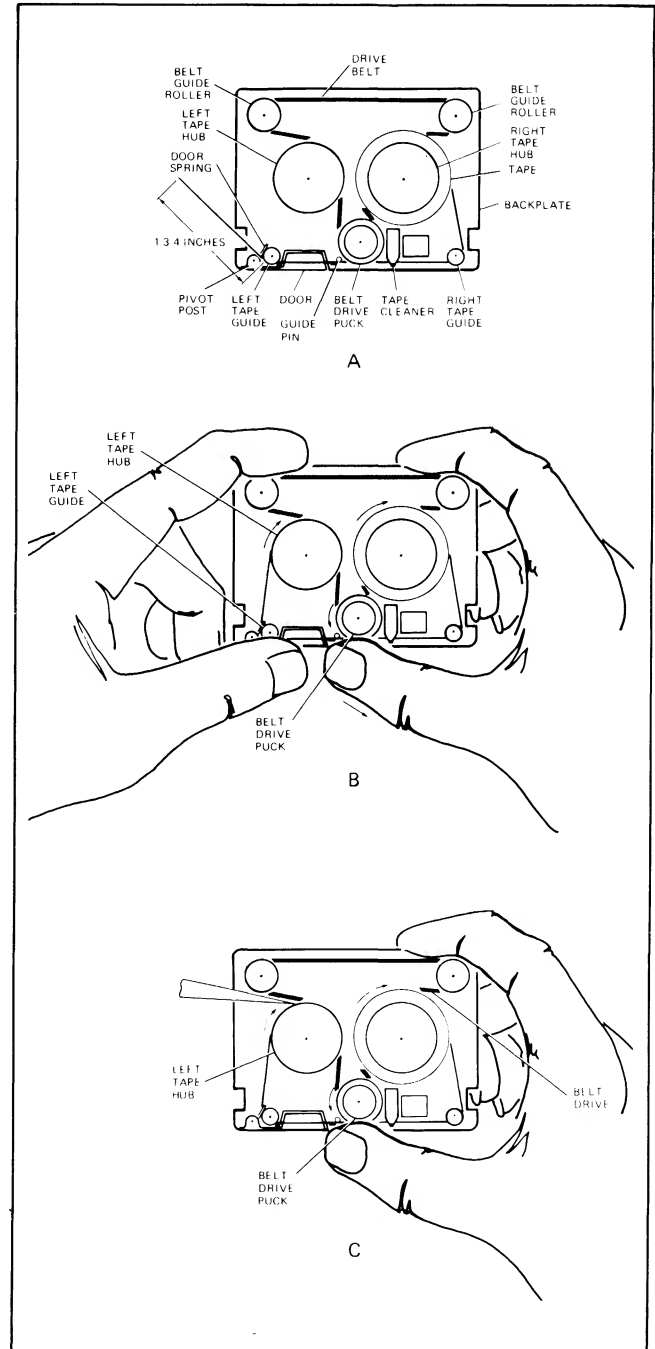

Figure D-1. Tape Cartridge Rethreading
- As shown in figure D-1, view A, rethread loose end of tape around right tape guide, through tape cleaner (use tweezers, if necessary), past belt drive puck, outside guide pin, and around left tape guide so that approximately 1-3/4 inches of tape is clear of guide.
- Hold tape cartridge as shown in figure D-1, view B, so that right hand can be used to rotate belt drive puck and left hand can be used to maintain tape tension at left tape guide.
- While maintaining tape tension, use any small round-tipped tool to trap free end of tape between drive belt and left tape hub as shown in figure D-1, view C.